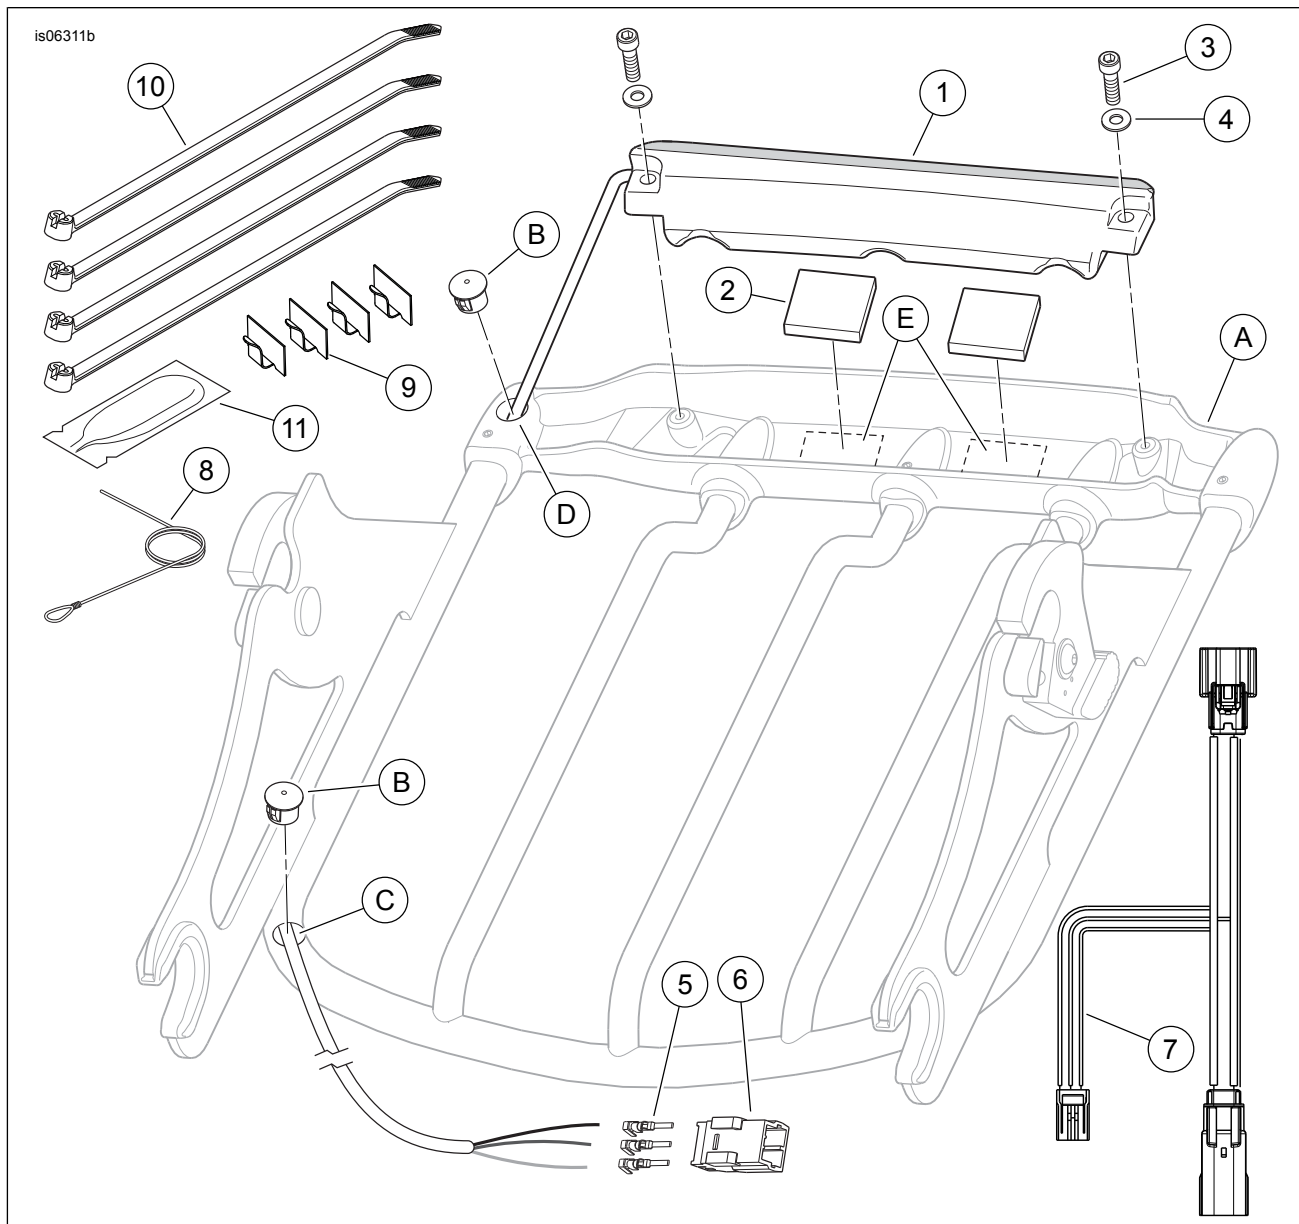

Figure 3. Service Parts, Air Wing Detachable Luggage Rack Light Kits
See Figure 3 and Table 1.
1. If not already in place, install the Detachable Docking Hardware Kit per the instructions in **that** kit. See Figure 3. If installed, remove the Air Wing Detachable Luggage Rack (A) from the vehicle and place it upside-down on the work surface.
2. Remove the black plastic plugs (B) from the holes at the front and back of the left side rail.
3. Insert the loop end of the nylon monofilament guide wire (8) through the forward hole (C) in the rail, and out through the rear hole (D). Allow the straight end to remain outside the forward hole.
- Remove the liner (4) from the adhesive backing on **one side** of a pad (2). Carefully position the pad to the top surface of the light (1), between the clearance notches, and press firmly into place. Repeat with the second pad.
- See Figure 3. Remove the remaining liner from both pads, and install the light to the rear cross bar with two socket head screws (3) and flat washers (4), drawing the wiring out the forward hole (C) as the light is set in place. Tighten the screws securely.
- See Figure 3. Connect the luggage rack light extension wire harness (7) to the main harness and the rear lighting harness.